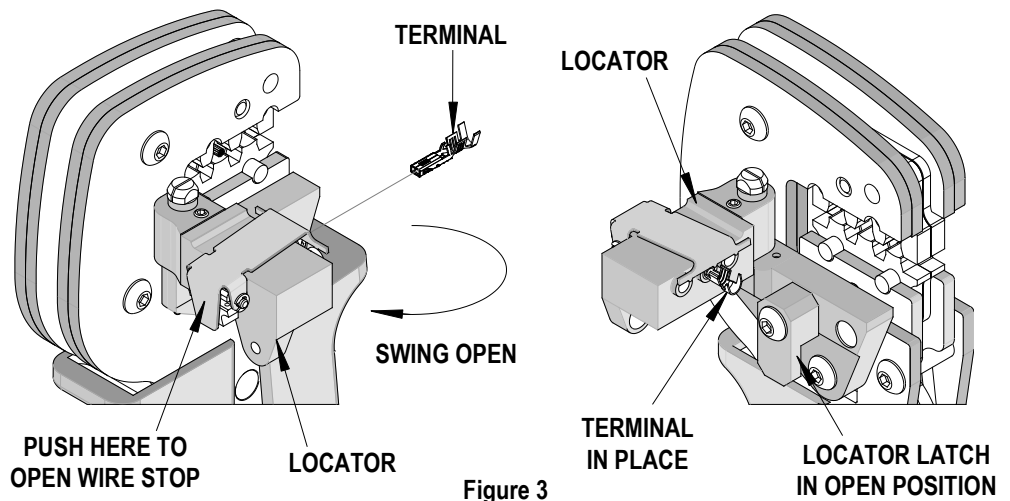
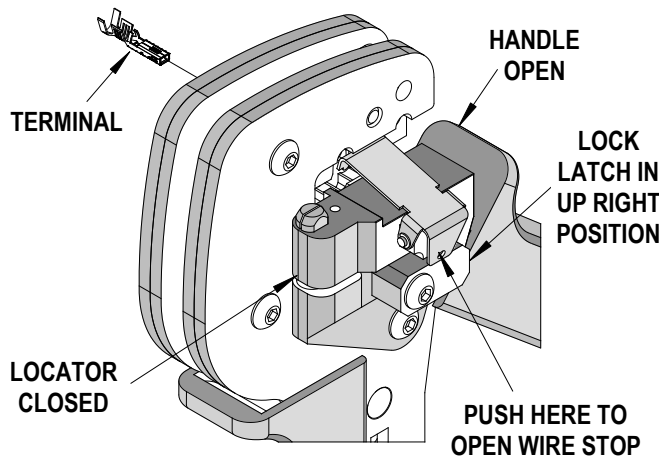
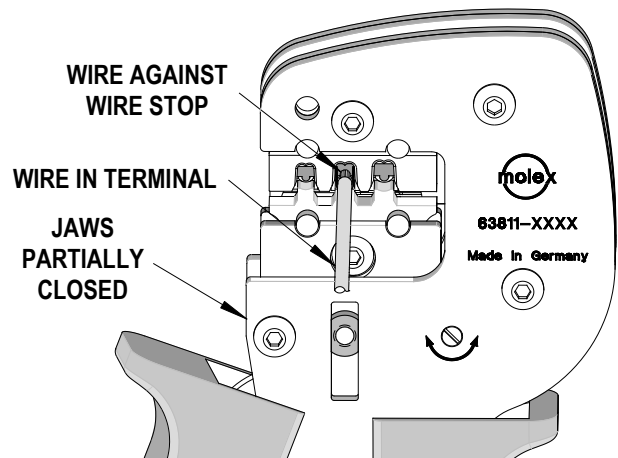

Figure 3
Figure 4
Figure 5
2. Swing the terminal locator away from the crimp tool shown in Figure 3. Some terminals with large insulation grips may interfere with the crimp tooling when swinging the locator into position. The terminal must then be loaded into the locator in the closed crimp position. See Figure 4.
3. Press down on the wire stop on the locator as shown in Figure 4. Insert the proper terminal into the proper nest opening. Make sure when choosing the nest opening, it will correspond with the profile on the hand tool. See Figure 5.
5. Insert the proper wire over the terminal. Gently touch the wire stop with the end of the wire. See Figure 5 and 6.